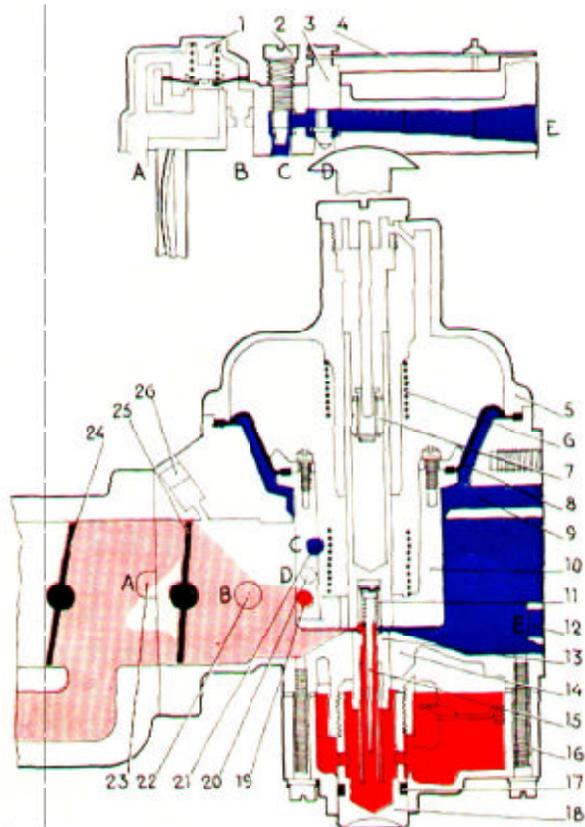
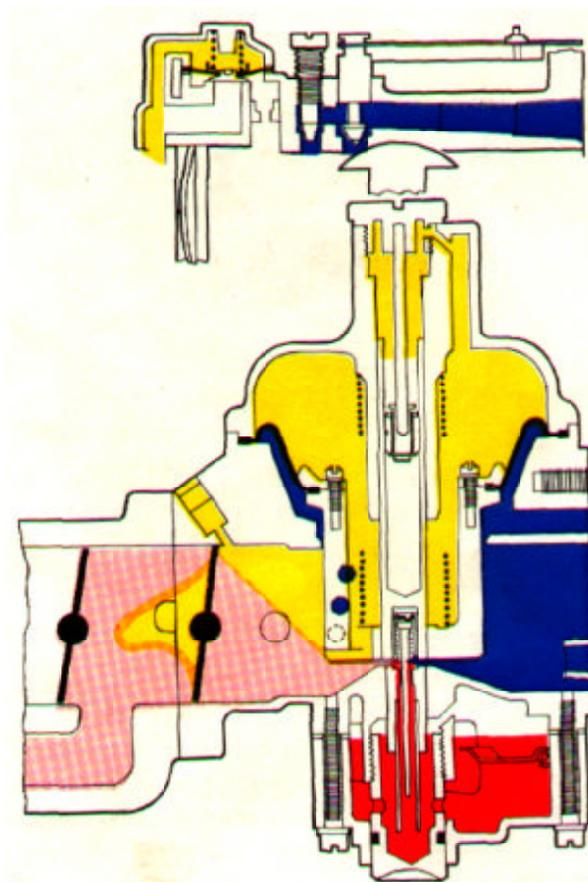
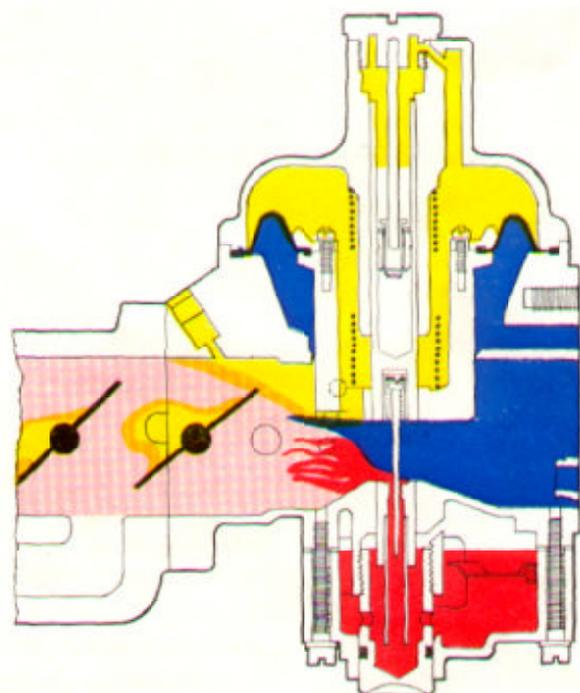

Fig. 72 Cold starting, principle
Fig.73 Idling, warm engine
Fig. 74 Normal operation (with secondary throttle)
When the engine is idling, the vacuum in the carburettor suction chamber is low and the column between the air valve and the bridge will be small (see Fig. 73). At this stage, the thicker section of the metering needle is in the jet and thus only a small quantity of fuel, corresponding to idling requirements, is sucked into the engine. The temperature compensator (Fig. 72) is regulated by a bi-metal spring (4) which influences a valve (3). When the engine is warm and the temperature in the carburettor rises, the valve opens and air is
supplied to the carburettor venturi to compensate for the increase in the fuel flow, which is obtained due to the alteration in the fuel's viscosity, see Fig. 73. Fine adjustment of the engine idling speed can be carried out with the idle trimming screw (2, Fig. 72).
When the throttle flap opens, approximately the same vacuum is obtained in the suction chamber as in the engine intake manifold. Due to the pressure difference between the underside of the air valve, where there is pressure in the carburettor inlet port, and the upper side of the valve, where there is vacuum, the valve lifts from the bridge. This also lifts the tapered metering needle (15, Fig. 72), which is attached to the valve, out of the jet. The effective choke area widens and increases the fuel flow. See Fig. 74.
When the air valve (10, Fig. 72) lifts, the damper plunger (7) is forced against its seat and oil is prevented from flowing past the lower side of the damper plunger from the upper side, and this retards the movement of the valve (10). A more powerful vacuum is temporarily obtained above the jet so that the fuel-air mixture becomes for the moment richer.